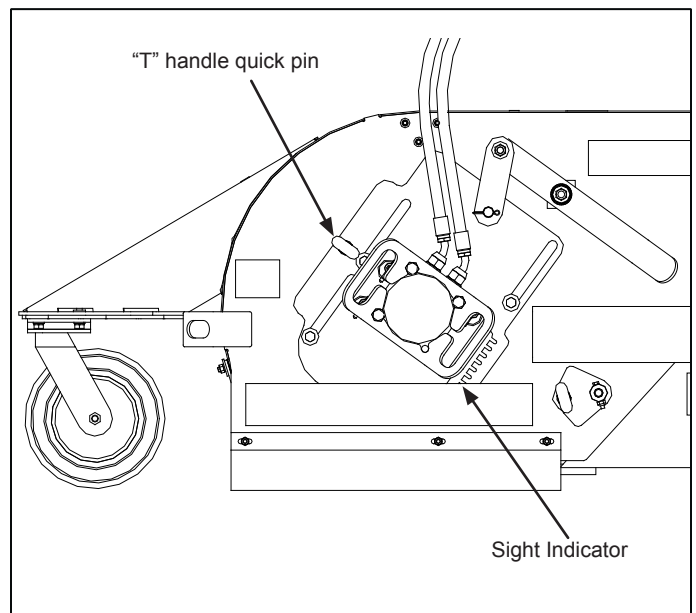

figure 2
- a. If brush pattern is too wide, pull "T" handle quick pin, move it up one notch. Repeat on opposite side. (figure 2)
- b. If brush pattern is too narrow, pull "T" handle quick pin, move it down one notch. Repeat on opposite side. (figure 2)
- c. Use sight indicator to be sure sweeper brush is level. (figure 2)